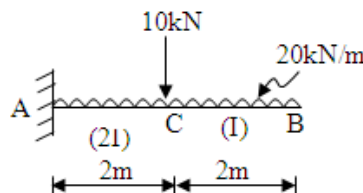

Fig.5
- (c) Find slope & deflection at free end of the beam shown in Fig.5 by Moment area method. $E = 200 \text{ GPa}$ and $I=16500 \times 10^4 \text{ mm}^4$. 07